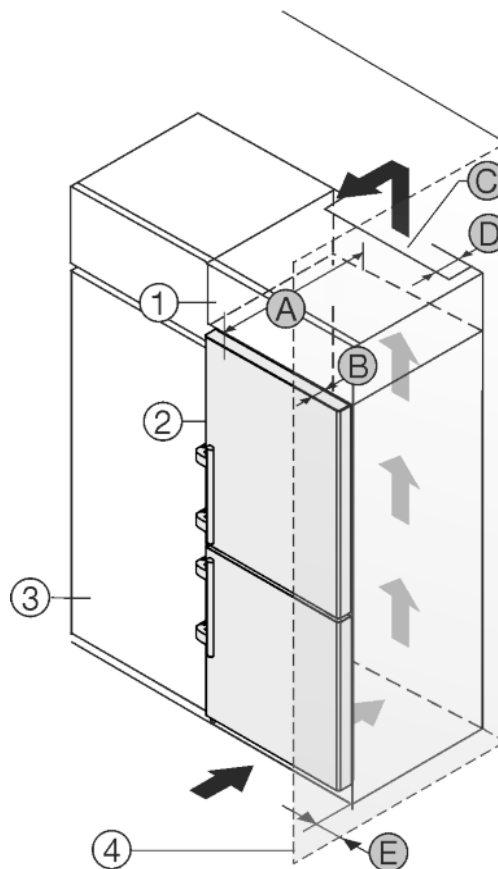

Fig. 45
The appliance can be built into kitchen units. A top cupboard Fig. 45 (2) can be added above the appliance in order to bring the appliance Fig. 45 (1) up to the height of the fitted kitchen units.
The appliance can be installed right next to the kitchen cabinet Fig. 45 (3). The appliance must stick out by the depth Fig. 45 (B) from the front of the cabinet so that the doors can be opened fully. The appliance may protrude further depending on the depth of the kitchen cabinets and whether wall spacers are used.
- There must be a ventilation shaft with the depth *Fig. 45 (D)* at the back of the top cupboard over the entire width of the cupboard.
- The ventilation shaft *Fig. 45 (C)* must be observed under the ceiling.
If the appliance is installed with the hinges next to a wall *Fig. 45 (4)* the distance *Fig. 45 (E)* between the appliance and the wall must be observed. This is how far the handle protrudes when the door is open.